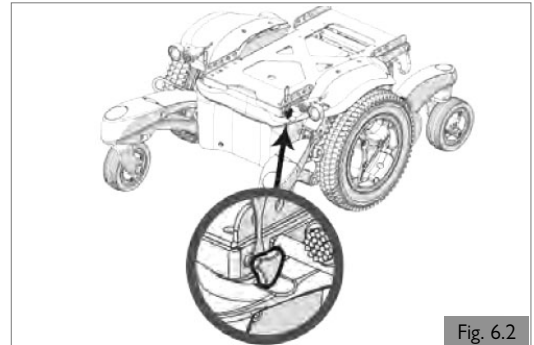

Fig. 6.2
1. Release the two handle screws under the front of the seat frame, that connect the seat frame with the seat module interface (Fig.6.2).